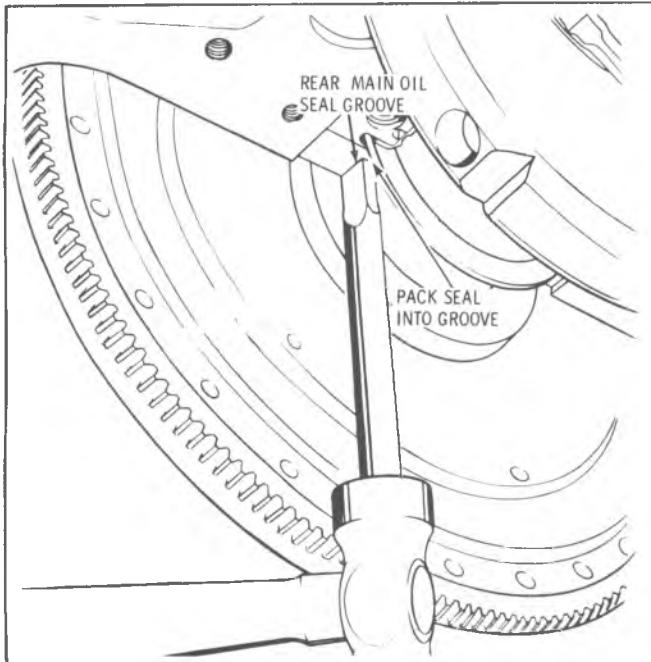

Fig. 6A6-98—Packing Oil Seal
4. Measure the amount the seal was driven up on one side; add 1/16" (1.6mm), then cut this length from the old seal removed from the main bearing cap with a single edge razor blade. Measure the amount the seal was driven up on the other side. Add 1/16" (1.6mm) and cut another length from old seal. Use main bearing cap as a holding fixture when cutting seal as shown in Fig. 6A6-99.